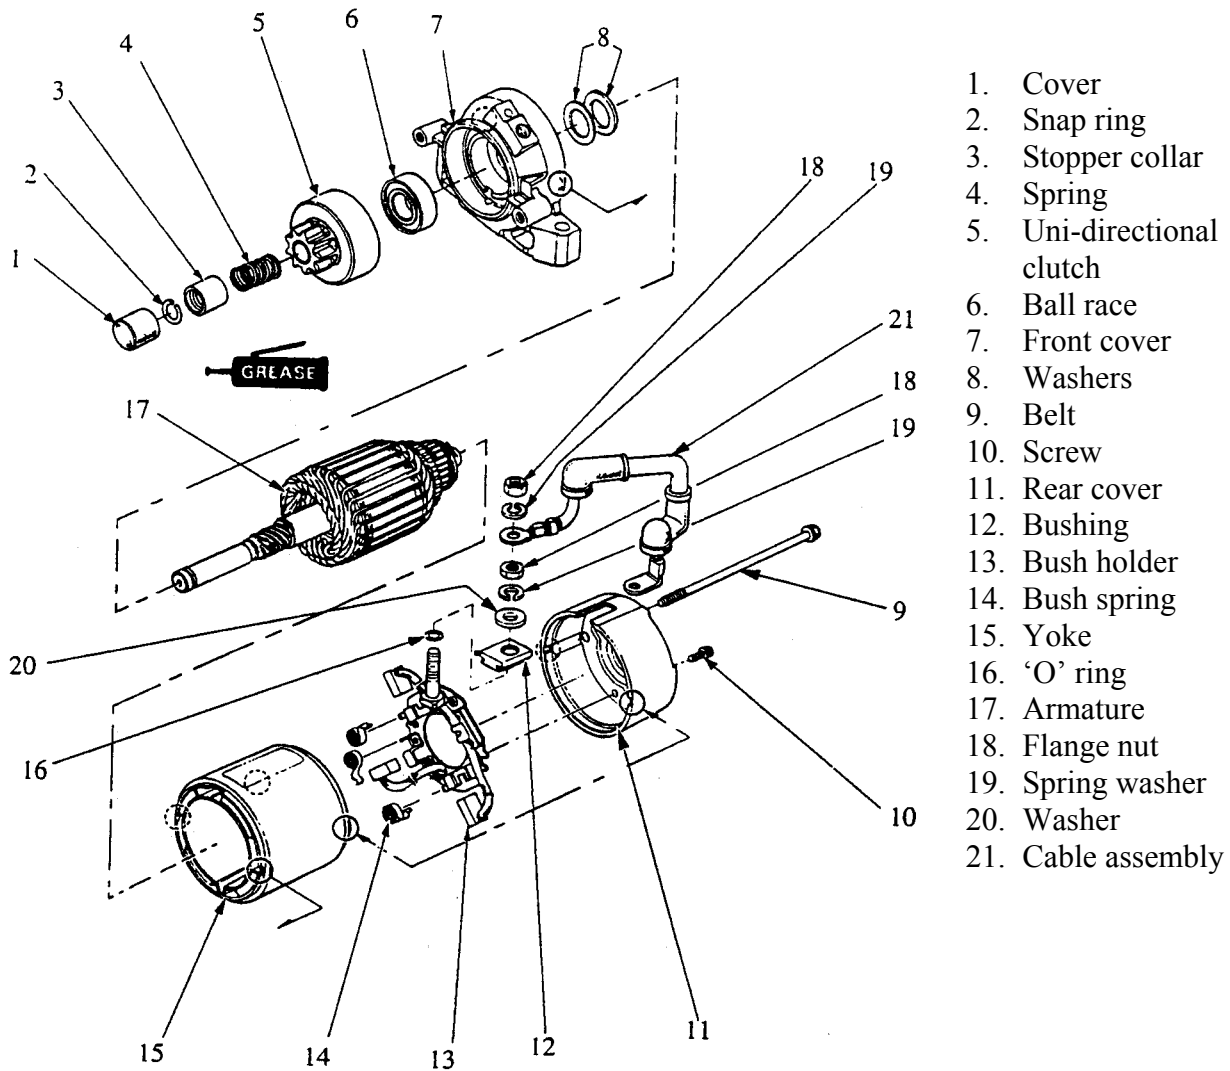
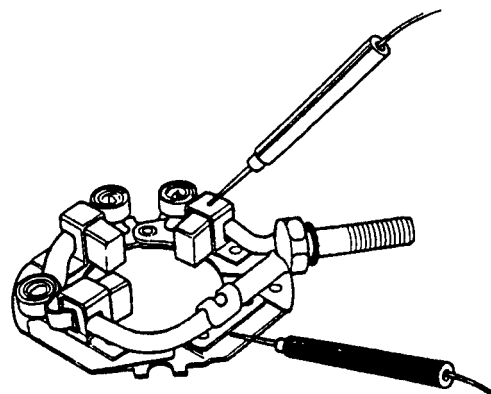

Fig. 16-24 Starter motor components
Fig. 16-28 Testing brush insulation
To dismantle the starter motor refer to Fig 16-24 and proceed as follows:
With the brushes refitted to their holders, check for any continuity between the brushes (Fig. 16-28). Should continuity exist, fit a new brush-holder assembly. To do this, unscrew the nut (18) and two screws (10) securing it to the end cover (11) – See Fig. 16-24.